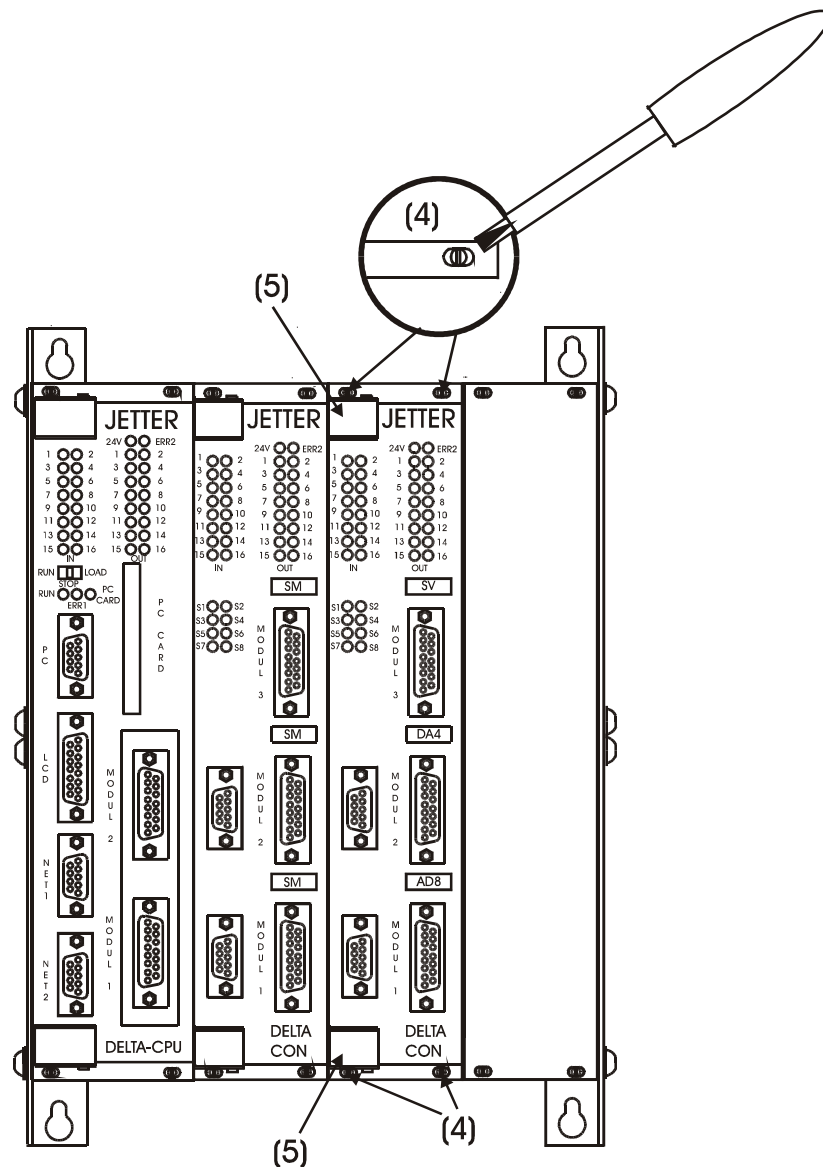

Fig. 36: Front view of the DELTA basic housing equipped with basic modules
- Loosen the four screws (4) connecting the DELTA PID controller module with the basic housing of the DELTA control system using a screwdriver (refer to Fig. 36)
- Pull the DELTA PID controller module out of the DELTA basic housing using the handles (5) (refer to Fig. 36).